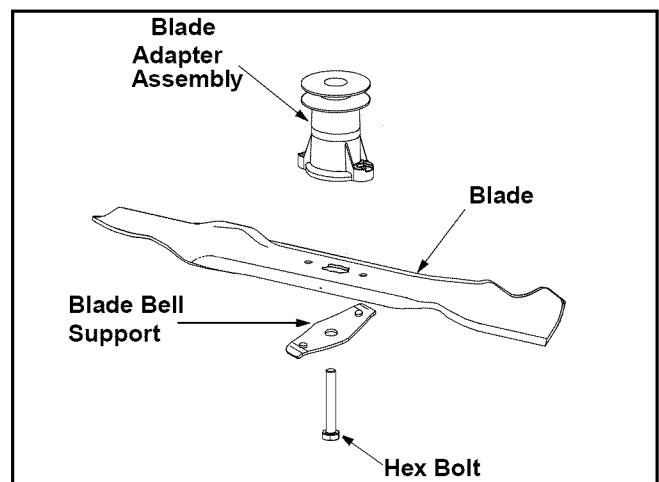

Figure 13
- Remove the bolt and the blade bell support that hold the blade and blade adapter assembly to the engine crankshaft. See Figure 13 .